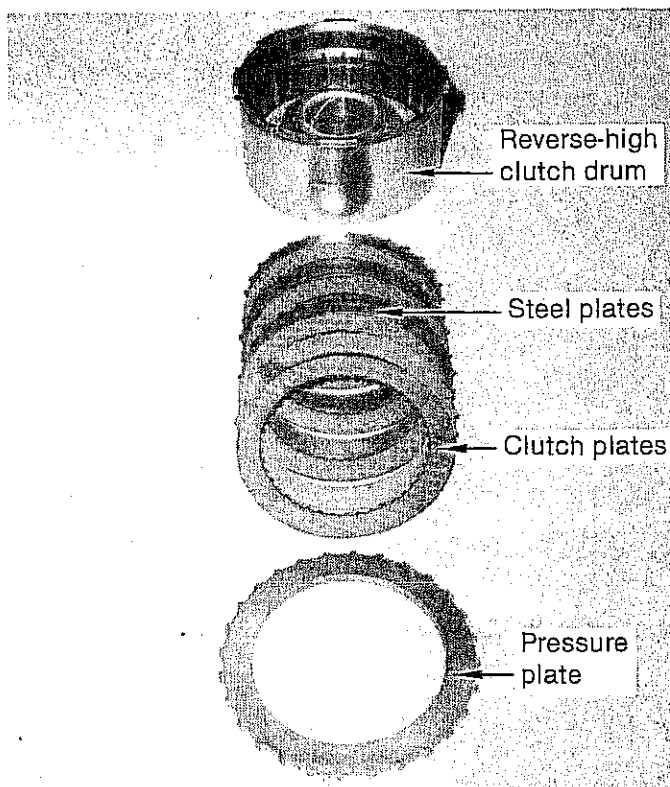

FIGURE 29
STEP 1. Set the reverse-high clutch assembly in front of you with the clutches facing up. Remove the snap ring holding the pressure plate in place with a screwdriver. Remove the thick pressure plate and two to four reverse-high clutch plates and steel plates. (See Fig. 29) Set the pressure plate and snap ring aside.